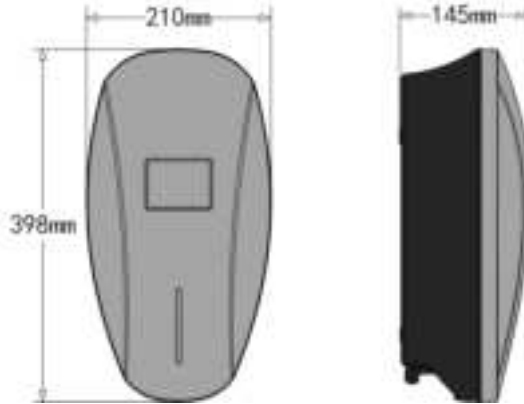

Fig. 4-1 The shape & dimensions of RASONIC
- The shape & dimensions of RASONIC AC EV charging station shown as Fig. 4-1.